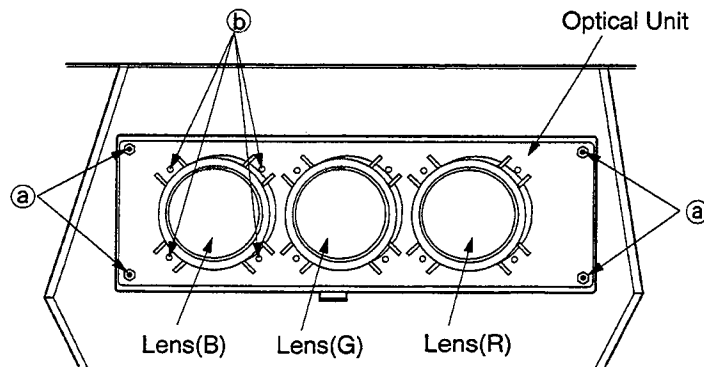

Fig. 6-1
12. Remove 4 hex-screws (a) retaining the Optical Unit. [Fig. 6-1]
3. Install the Lens, removed in steps 13 and 14 of Removal of the CRT. [Figs. 6-1, 6-2]
- 2) Install the mounting screws, refer to Fig. 6-1.